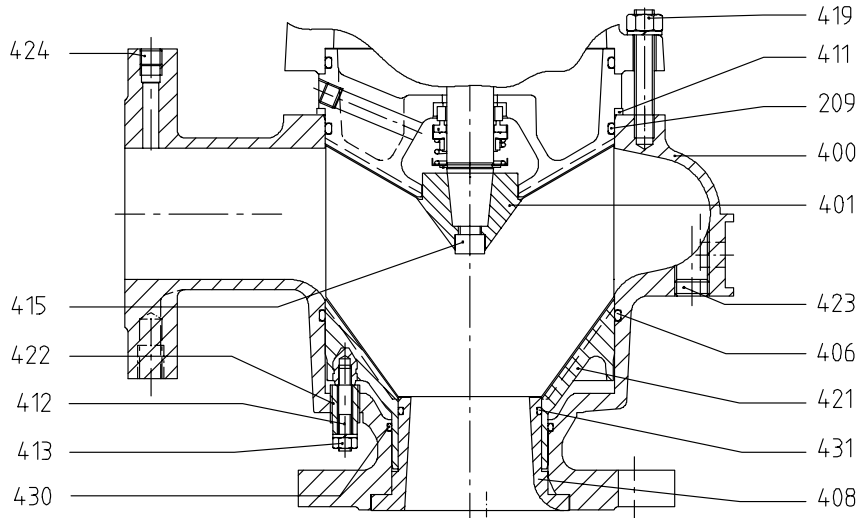

fig.3.8: C080 nastelbaar
3.3.5 VERWIJDERING VAN DE SLIJTCONUS, SLIJTRING EN ZUIGDEKSEL BIJ "NASTELBARE" POMPEN (fig.3.8, 3.9, 3.10)
3.4.4 MONTAGE VAN DE SLIJTCONUS, SLIJTRING EN ZUIGDEKSEL VAN "NASTELBARE" POMPEN (fig. 3.8, 3.9, 3.10)
3.5 EIND MONTAGE, fig. 3.8, 3.9, 3.10